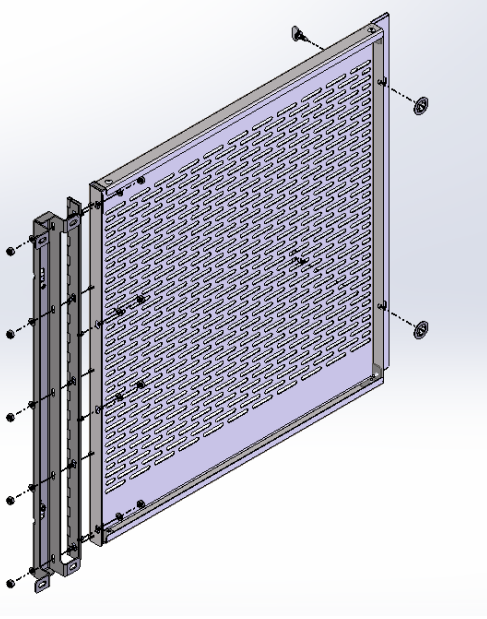

**Figure 4: Positioning of OGA on Truck**
- a. The top edge of the Outer Guard should be 2" from the bottom of the protruding flange on the cab. (Figure 4)